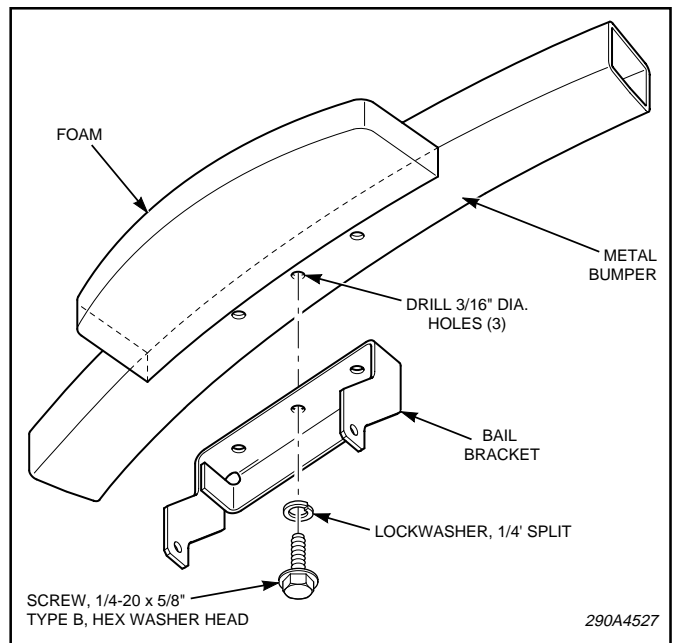

Figure 2.
4. See figure 2. Secure the bracket to the vehicle using three 1/4" x 5/8" thread-forming screws and split lock washers.